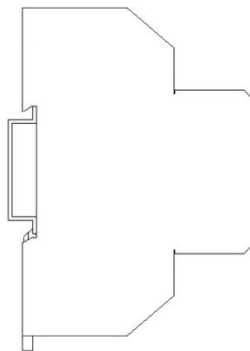
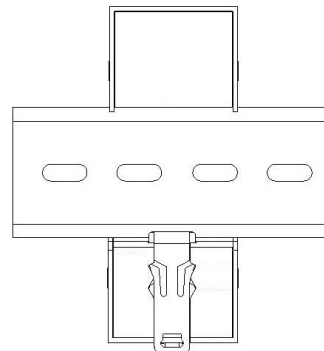

Figure 3
Figure 4
3. Hang the meter on the guide rail as shown in Figure 3, and then push the buckle up a gear to clamp the meter on the guide rail. As shown in Figure 4;